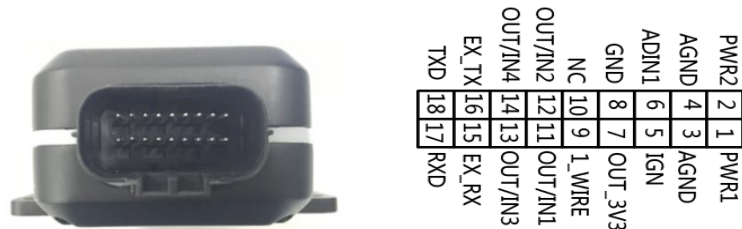

Figure 1. The 18-pin Connector on the GV600MG
2. Tighten the screws sufficiently until the rubber ring is squeezed out as shown in the following figure 1.